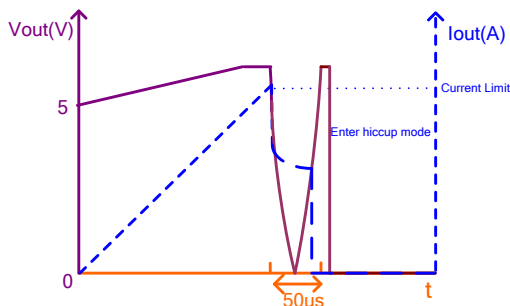

Figure 7: Over-Current Limit for CR Load
After the soft-start finishes, if the USB output voltage is lower than 3.5V and lasts longer than 50 μ s, the MPQ4485 enters hiccup mode without having to wait 5ms (see Figure 7). This can prevent an abnormal thermal rise during the constant resistor (CR) load over-current case.